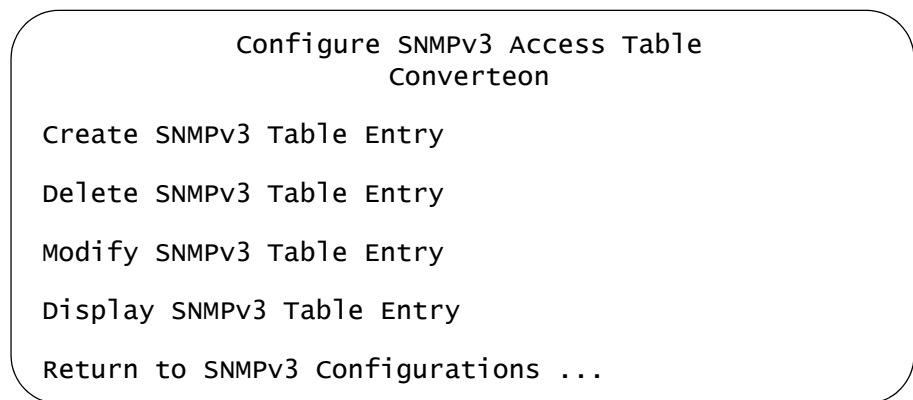

Figure 128. Configure SNMPv3 Access Table Menu
- From the Main Menu, select **Configuration -> System Configuration -> System Parameters Configuration -> SNMPv3 Configurations -> Configure SNMPv3 Access Table**. The Configure SNMPv3 Access Table menu is shown in Figure 128.